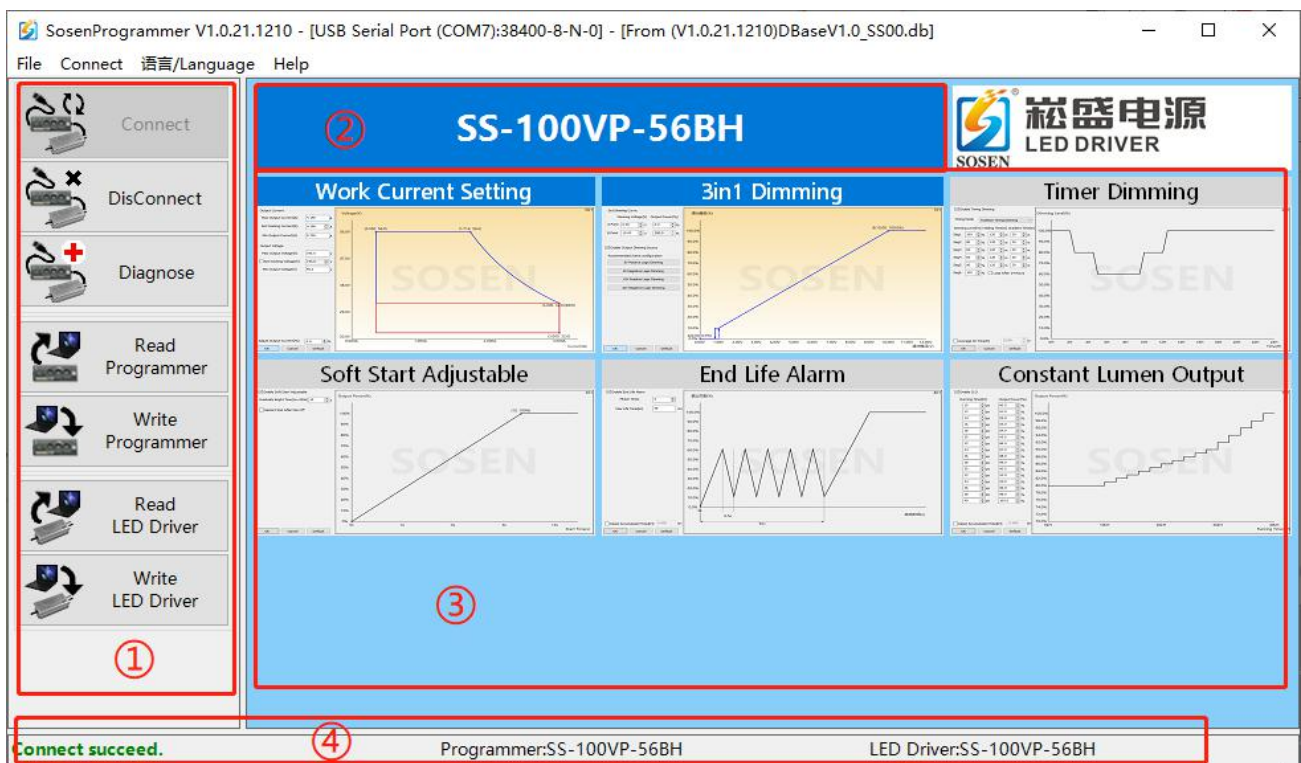

figure 3
(1) Connect, Read LED Driver and Write LED Driver, as shown in Figure 3, at position ① in the block diagram.
If you want to restore the default parameters of the model, you can click "Load Default Values", as shown in Figure 3, click the position ② of the block diagram with the left mouse button, and select the corresponding model.
(2) Modify the data, such as "Work Current Setting", "3in1 Dimming", "Timer Dimming", etc., as shown in Figure 3, at position ③ in the block diagram.
(3) When "Writing LED Driver", please make sure that the selected model is the same as the connected LED driver model (as shown in Figure 3, position ④ in the block diagram), otherwise Programmer will refuse to program and report an error.
The model written in Programmer must be the same as the LED driver model to write successfully, otherwise Programmer will report an error. Check whether the models are the same, as shown in Figure 3, block diagram position ④).